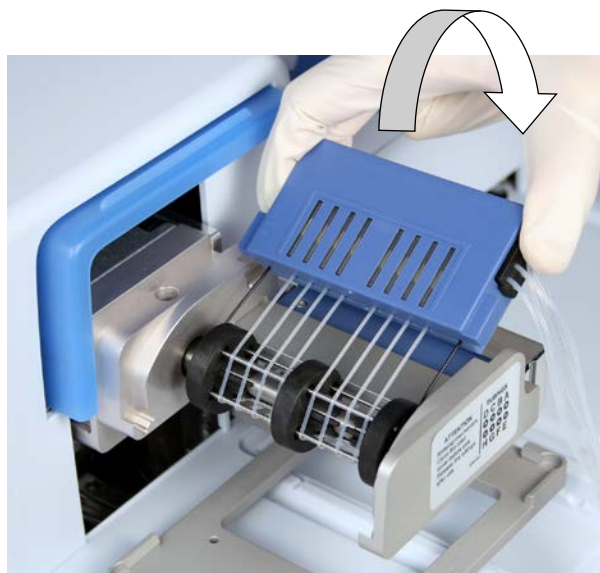

Figure 4-13. Inserting the upper part of the dispensing cassette
3. Take a firm grip on the upper part of the dispensing cassette with your right hand and carefully pull the tubes around the pump rotor until the upper part reaches and fits into the upper part slots of the pump body (Figure 4-13). Insert into the slots. Hold onto the instrument firmly with your other hand.
4. Double-check that both the upper and the lower parts of the dispensing cassette are properly placed into their corresponding slots (Figure 4-13 and Figure 4-14).